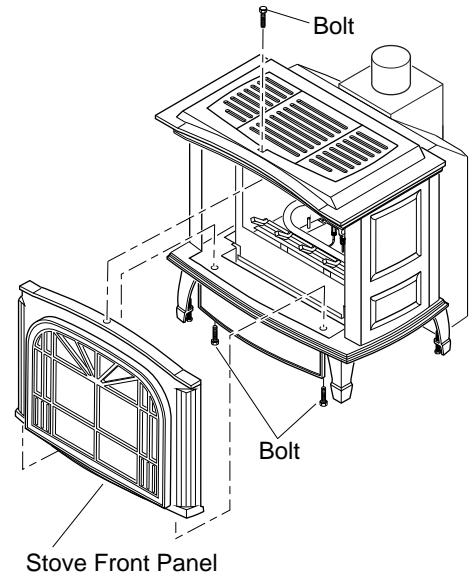

Figure 41 - Removing Front Panel from Stove
1. Remove 2 bolts from bottom of stove and one from the top of stove to remove front panel (see Figure 41).